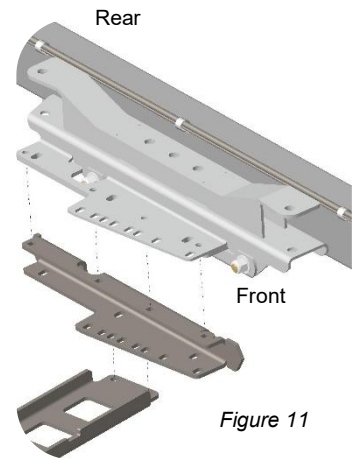

Figure 11
60. Install control arm mounting brackets to the frame (see figure 11 for front to rear orientation). Make sure mounting surface is flat and free of debris. Use the M12 x 40 flat head bolts from hardware kit 118. Use high strength threadlocker and tighten the bolts very tight.
62. The belly height in this kit is extremely adjustable. Anything from a flat belly to 3" drop can be achieved using a combination of spacer plates and spacer brackets (see figure 11, 12 and 13). Flat belly configuration will require a body lift or floor pan modification. Many late model transmissions will require a 2" drop bracket (see figure 11). *2" drop is still 1.5" higher than the stock belly height.* Hardware kit 120 contains the longer bolts needed for the drop spacers.